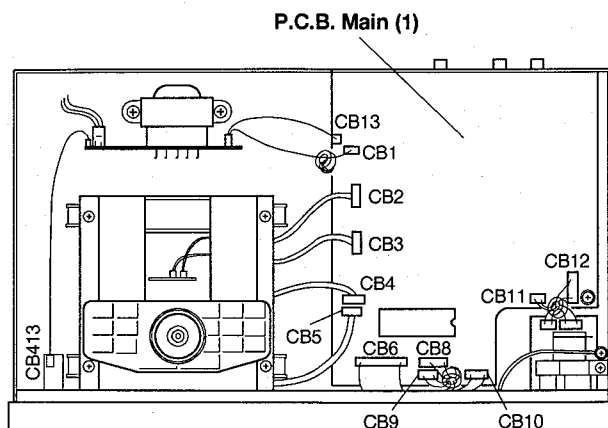

Fig. 2
- Remove 7 connectors in Fig. 2.
- Remove 4 connectors in Fig. 2.